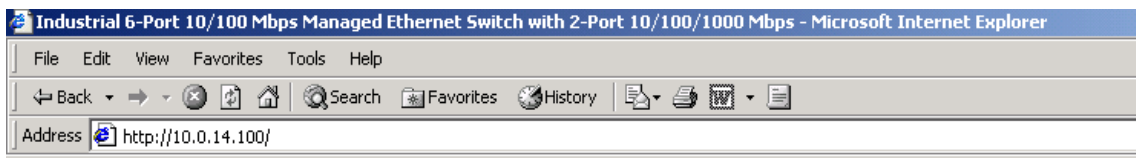

Fig. 2.1
2. Type the switch's IP address (e.g. <https://10.0.50.48>), (next page, Fig. 2.1).